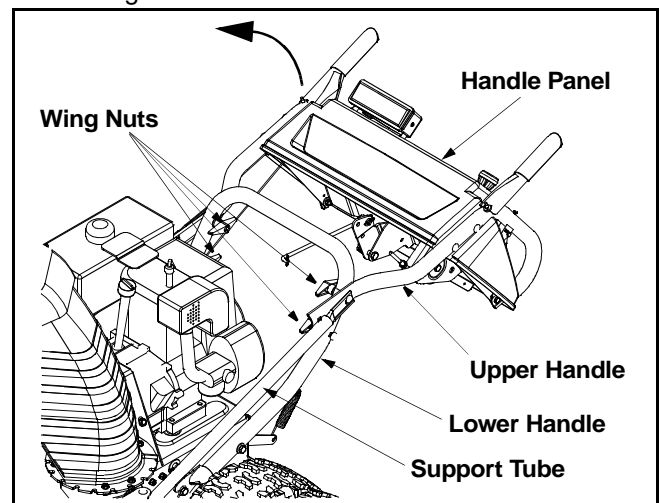

Figure 3
- Raise the upper handle assembly until it locks over the lower handle. See Figure 3.